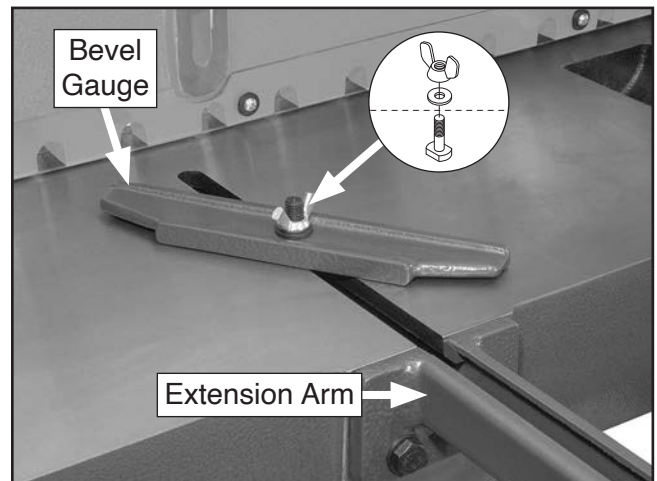

Figure 22. Bevel gauge installed to support angled front workpiece edge.
4. Install (1) M12-1.75 x 45 T-bolt in T-slot and secure bevel gauge to extension arm or table against workpiece front edge with (1) T-bolt, 12mm flat washer, and M12-1.75 wing nut (see **Figure 22**).
Note: *Figure 22 shows bevel gauge installed in left T-slot, but it can be installed in either side. Install the bevel gauge in the best position to secure your workpiece for the operation.*